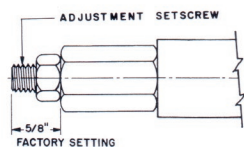

FIGURE 1
- If adjustments are necessary, ensure that adjustments are made while engine / compressor / no flow switch are at their normal operating conditions. The adjustment setscrew is located on bottom of switch housing. Turn setscrew IN to decrease shutdown time and OUT to increase. Shutdown time can be determined by removing / disabling lubricator pumping unit. On multiple pump installations pumping at the same rate, the setting can usually be transferred from one switch to another by making the distance from the end of the adjustment setscrew to the end of the adjustment setscrew housing equal on all switches (see figure 1).